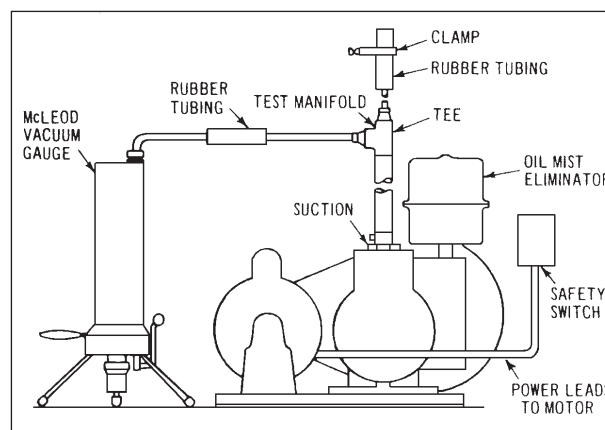

Figure 6-1 – Pump Test Manifolding
**NOTE:** If possible, also read the blank-off pressure with a thermistor or thermocouple gauge. See **Figure 6-1** and **Table 6-1** for common faults in vacuum systems.
1. Close off the pump inlet by means of a vacuum valve or short segment of manifolding, as shown in **Figure 6-1**.